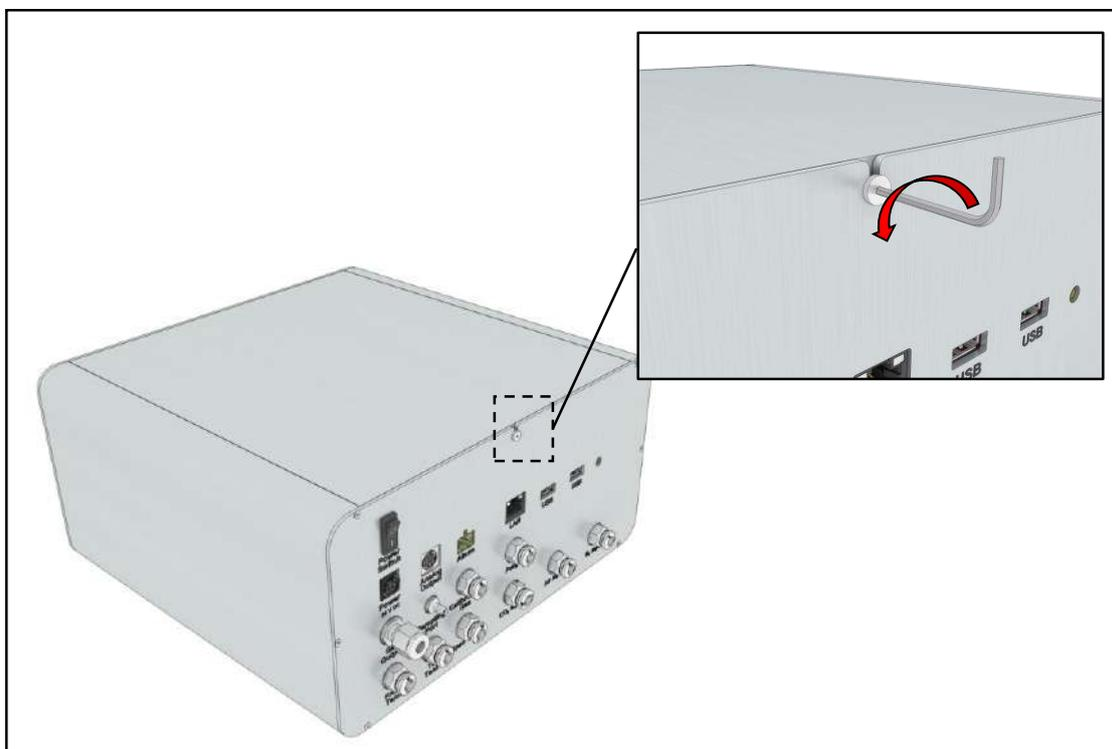

Figure 128. Loosen the screw by using a hexagonal key.
1. Loosen the screw counterclockwise by using a hexagonal key (1.5mm), as shown in Figure 128.